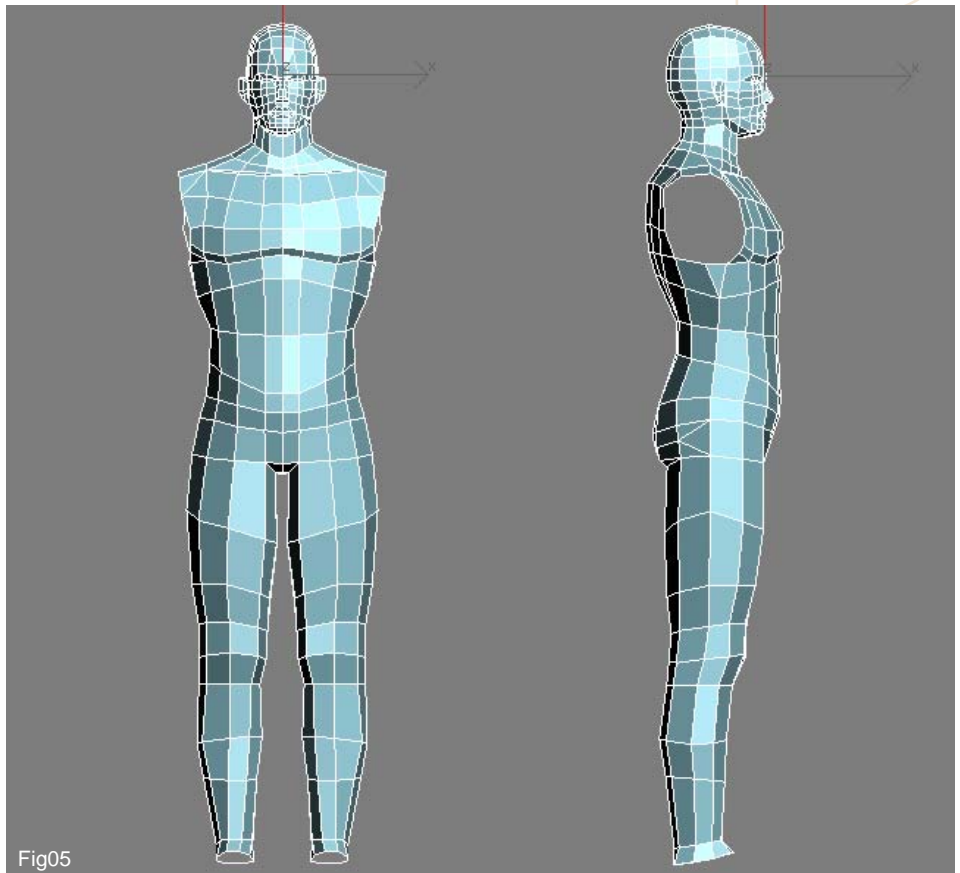

Fig05
5. The next stage involves applying exactly the same procedure in order to extend the leg downward to form the knee, calves and ankle. In Fig05 you will notice that this comprised of six new edges all of which were shaped differently in accordance the parts of the leg.